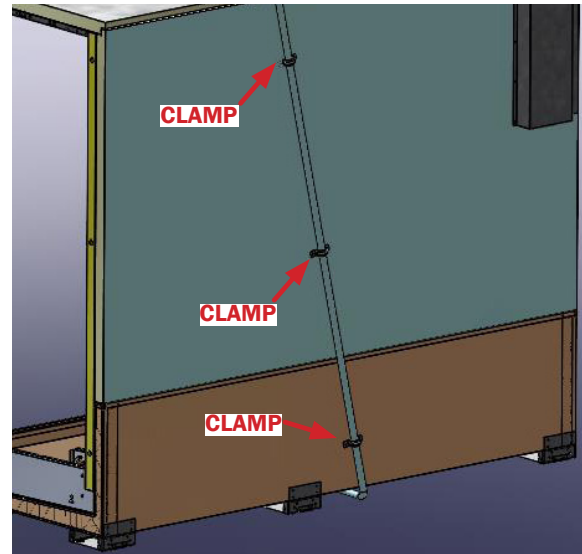

Fig. 32 Tubing clamps
8. Now fix three of the tubing clamps provided in the package at equal intervals at the rear of the case. While fitting the clamps, ensure there is sufficient slack in the tubing of the assembly to prevent any form of tension or breakage at the drain adapter (Fig. 32).